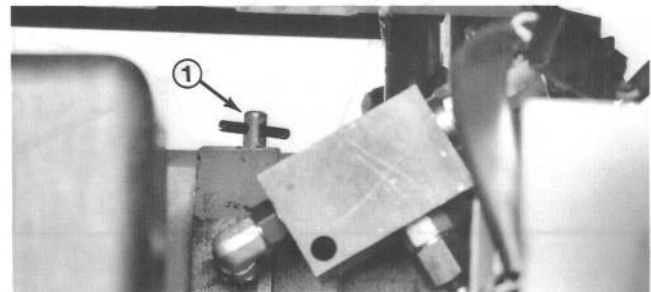

Figure 15
2. Secure roll bar to frame with (4) $\frac{3}{4}$ x 3-1/2" lg. bolts, lockwashers, and nuts (Fig. 15). Tighten securely.
1. Reach in and rotate by-pass valve on transmission (Fig. 15) counterclockwise $\frac{1}{2}$ to 1 turn. Opening the valve opens an internal passage in the pump, thereby bypassing transmission oil. Because fluid is by-passed, the machine can be pushed without damaging the transmission.